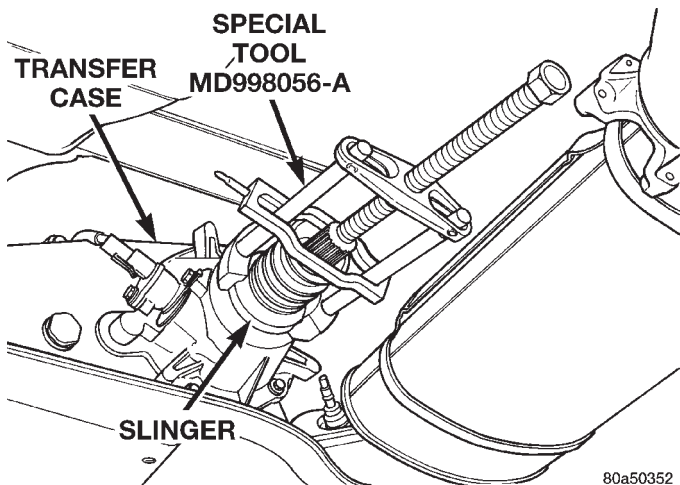

Fig. 8 Rear Slinger Removal
(2) Spread band clamp which holds output shaft boot to slinger with a suitable awl, or equivalent.
(3) Remove output shaft boot from slinger and output shaft.
(4) Using Puller MD-998056-A, remove rear slinger (Fig. 8).